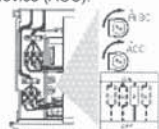

Figure 15.9
- To carry out the adjustment move the function selector 3 to the OFF position (Fig. 15.9) and use the device (ACC).
- After the adjustment operations bring the selector 3 of figure 15.9 back to the normal position (ON).